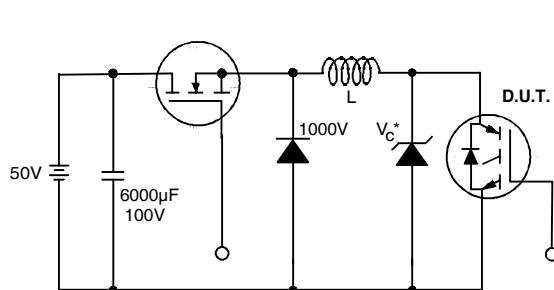

Figure 19. Clamped Inductive Load Test Circuit
- ②  $V_{CC}=80\% (V_{CES})$ ,  $V_{GE}=20V$ ,  $L=10\mu H$ ,  $R_G = 50\Omega$  (figure 19)
- ③ Pulse width  $\leq 80\mu s$ ; duty factor  $\leq 0.1\%$ .
- ④ Pulse width  $5.0\mu s$ , single shot.
- ⑤  $t = 60s$ ,  $f = 60Hz$